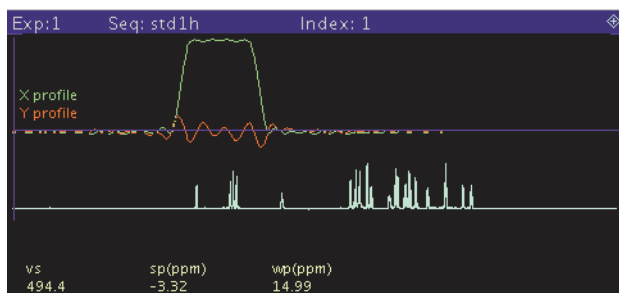

Figure 103. Shaped Pulse Simulations Reference Spectrum
13. Request simulations, see Figure 103, as follows: